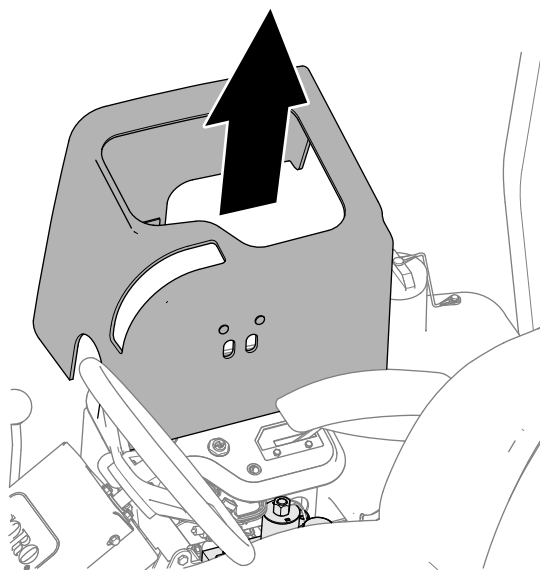

Figure 87
3. Lift the magnetically mounted console cover (Figure 87) to expose the mower manifold.